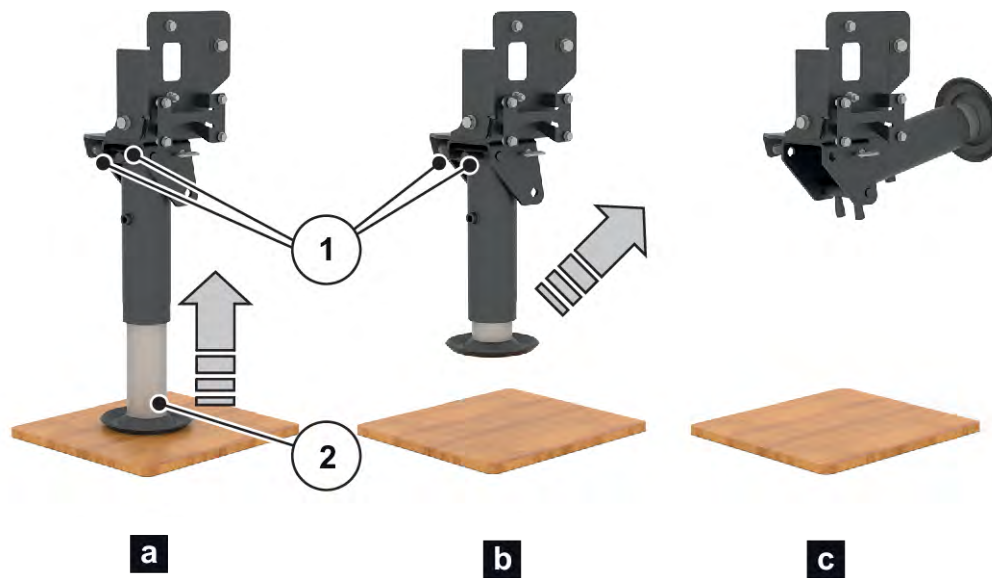

Fig. 25: Folding away the support stand
- ▶ Fold away the support stand. See Fig. 25 *Folding away the support stand*